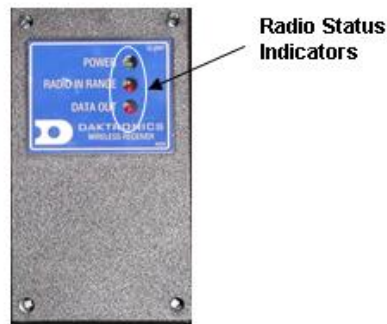

Figure 26: Radio Receiver w/ Cover
3. The radio receiver has a plastic cover (**Figure 26**).